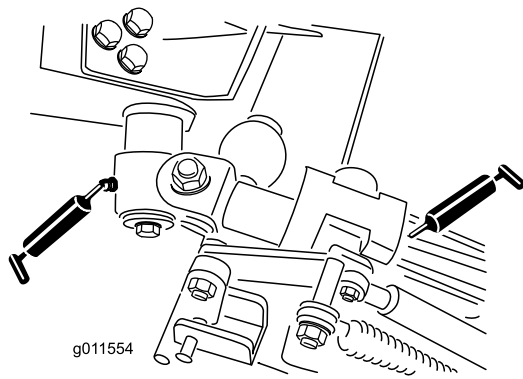

Figure 46
- Bell crank pivot bushings (2) (Figure 46)
- Rear arm bushings (4) (Figure 46)